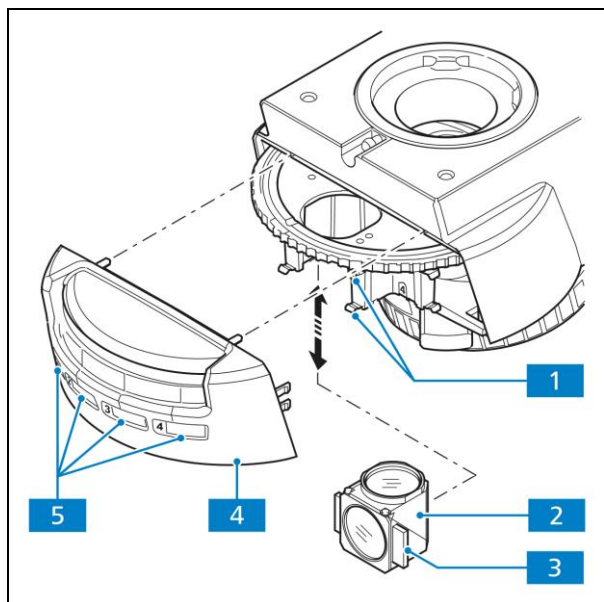

Fig. 3-7 Replacing the reflector module
- Remove the cover cap (Fig. 3-7/4) from the stand towards the front.
- Insert the module (Fig. 3-7/2) as illustrated together with the retaining brackets on the right and left (Fig. 3-7/3) diagonally from below into the upper spring clips (Fig. 3-7/1) of the reflector turret.
- Apply the supplied stickers with the filter combination data of the respective module to the corresponding field of the cover cap (Fig. 3-7/5, positions 1 to 4).